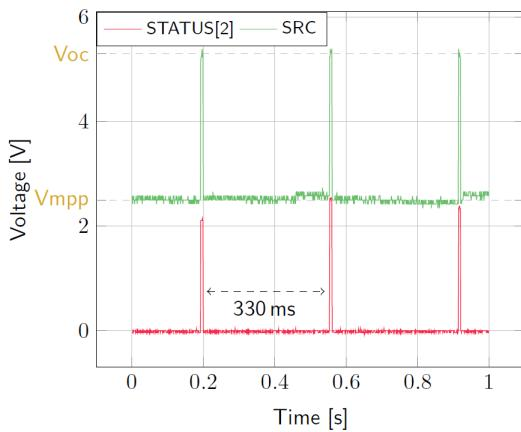

Figure 4: **SRC** and **STATUS[2]** while energy is extracted from **SRC** (BATT under  $V_{OVCH}$ )
- **SRC**: regulated at  $V_{MPP}$ , which is a voltage equal to the open-circuit voltage ( $V_{OC}$ ) multiplied by the MPP ratio defined in Table 4. During the MPP evaluation, the AEM30940 stops pulling current from **SRC** and thus,  $V_{SRC}$  rises to  $V_{OC}$  (see Figure 4). Note that  $V_{SRC}$  must be higher than 380 mV to allow the AEM30940 to coldstart.
- **STATUS[2]**: asserted each time the AEM30940 performs a MPP evaluation (See Figure 4).